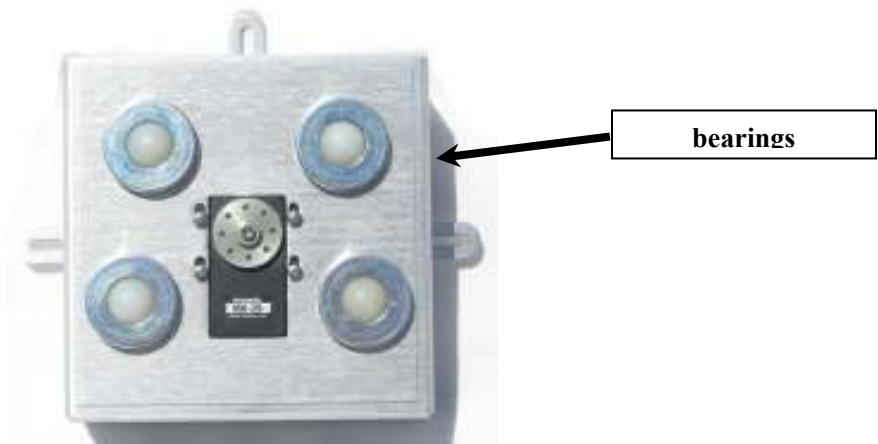

Figure 2
2. Install the (4) turntable bearings into the (4) holes as shown in figure 2.